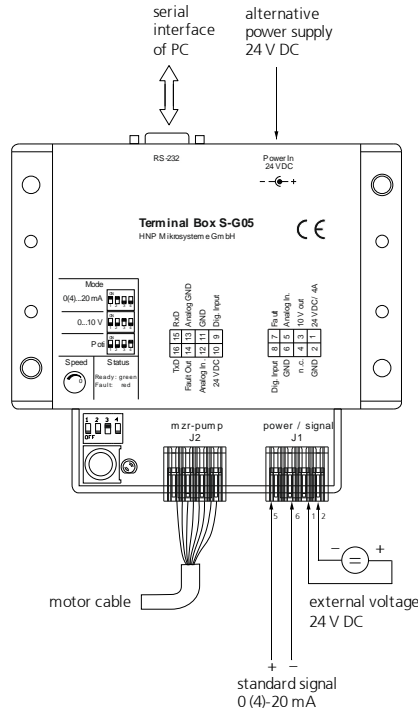

figure 31
4. Connect the external current source to the screw clamps »AnalogIn« and »GND« to the S-G05. (see figure 31).